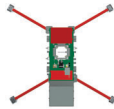
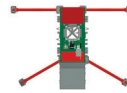

fig. 1.28
fig. 1.29
- 4- On **freestanding installations**, all base outriggers **must always be opened** at a 30-degree angle (fig. 1.28). Base outriggers **cannot be parallel to the face of the work (at a 0-degree angle) on a freestanding installation** (fig. 1.29).
- 5- On **tyed installations**, with **base outriggers** opened at a **30-degree angle** (fig. 1.28), the **maximum width** of planking **allowed in front** of the unit is **five planks**. It is important to note that a planking configuration wider than three planks cannot be combined with any other additional accessory or equipment.
On **tyed installations**, when **base outriggers** are required to be **parallel to the face of the work** (at a 0-degree angle) (fig. 1.29) during the initial stages of installation, the **first tie level** must be **installed no higher than 10' (3 m) from base level**. In such a case, the **maximum width** of planking allowed in **front** of the unit is a **one-plank** configuration.